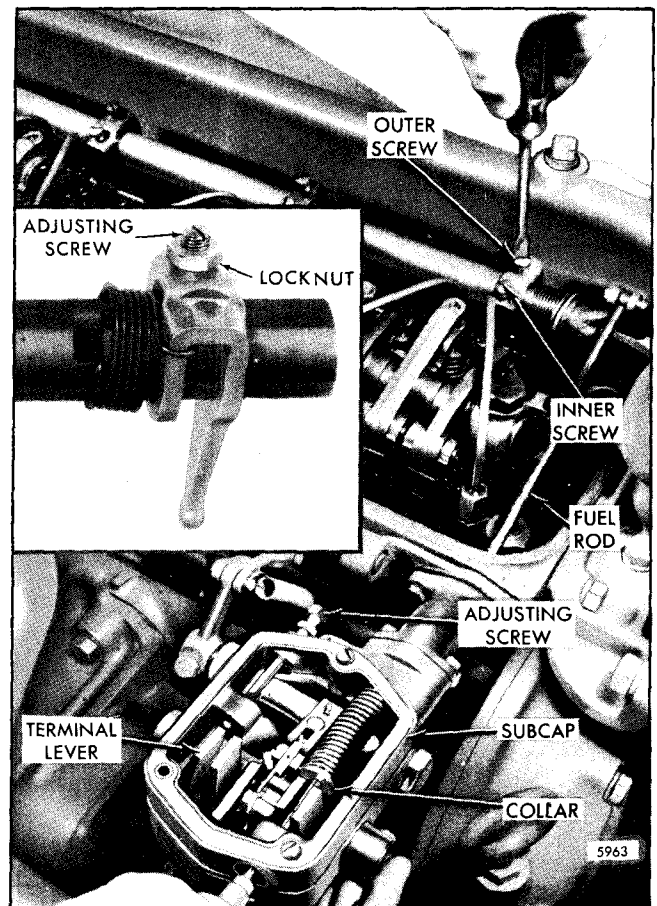

Fig. 2 - Positioning No. 1 Injector Rack
1. Adjust the No. 1 injector rack control lever by tightening the adjusting screw until the injector rack clevis is observed to roll up or an increase in effort to turn the screwdriver is noted (Fig. 2). Tighten the screw approximately  $1/8$  of a turn more and lock securely with the adjusting screw locknut. This will place the No. 1 injector rack in the full-fuel position.